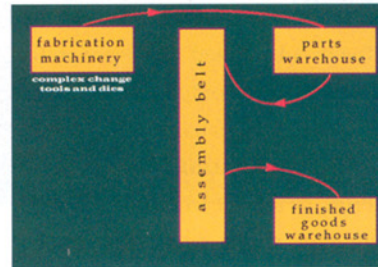

Figure 6.
**3. Understand the manufacturing processes.** Fixtures are often assembled on moving belts—usually the most cost effective and expedient manufacturing method (**Figure 6**).